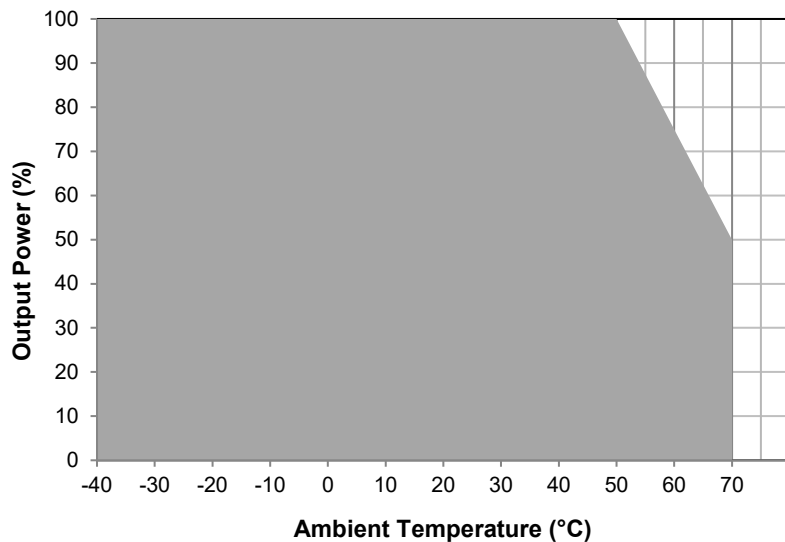

Fig. 1 De-rating for All Mounting Orientation
1. Power supply components may degrade, or be damaged, when the power supply is continuously used outside the shaded region, refer to the graph shown in Fig. 1.
- If the device is continuously operating outside the shaded region shown in Fig. 1. The device may be damaged or degraded.